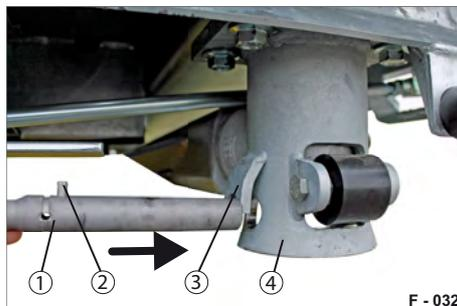
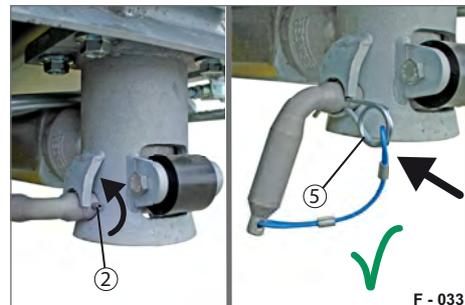

Fig. 55 Inserting socket pins
Fig. 56 Socket pin secured
- ▶ Insert the socket pin (Fig. 55/1) up to the limit position.
- ▶ Turn and insert the socket pin until the pin (Fig. 55/2) engages behind the safety latch (Fig. 56/3).
- ▶ Stick the spring pin (Fig. 56/5) through the bore hole in the socket pin.
- ▶ Remove the spring pin (Fig. 56/5).
- ▶ Turn the socket pin (Fig. 55/1) so that the pin (Fig. 55/2) comes out of the safety latch (Fig. 56/3).